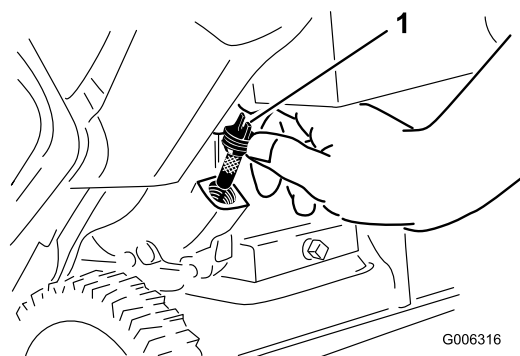

Figure 7
2. Clean around the oil fill cap (Figure 7).